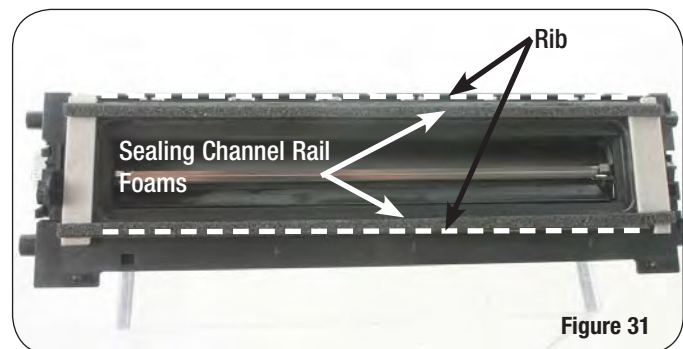

Figure 31
6. Remove the release liner and install the sealing channel rail foams onto the back of the mag section as shown in Figure 31. Overlap both open and closed end foam equally on both sides and install inside the ribs to avoid leakage.